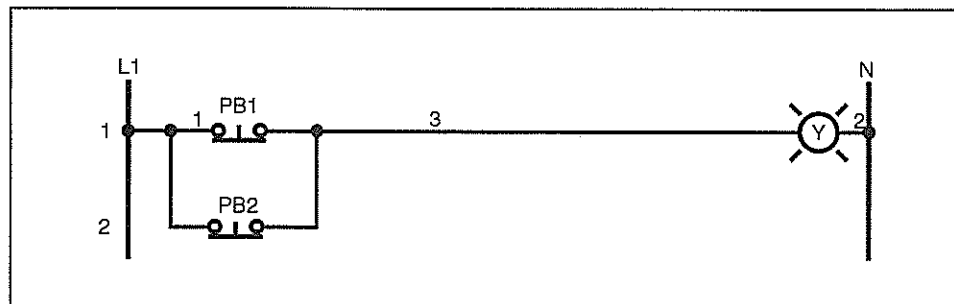

Figure 39. The NAND Logic Circuit for Skill 10
- 2. Connect the circuit shown in the ladder diagram in figure 39.